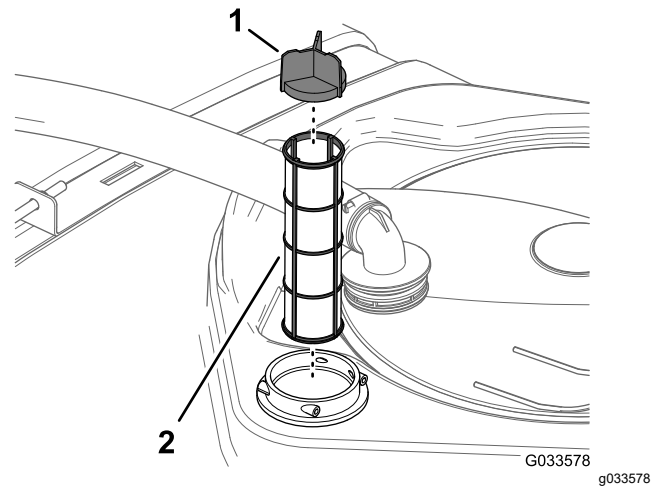

**Figure 109**
2. At the top of the sprayer tank, remove the retainer that secures the hose fitting attached to the large hose from the filter housing (Figure 109).
3. Remove the hose and hose fitting from the filter housing (Figure 109).